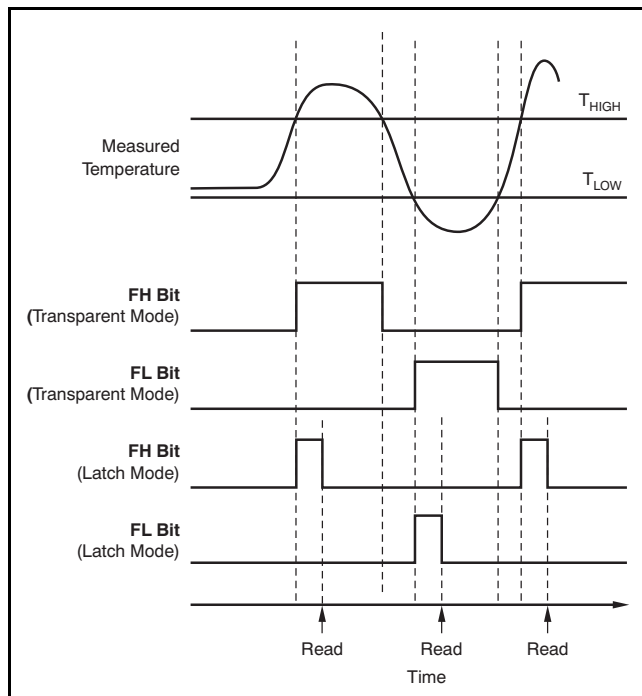

Figure 8. Temperature Flag Functional Diagram
The TMP103 contains a watchdog function that monitors device temperature and compares the result to the values stored in the temperature limit registers (T_{HIGH} and T_{LOW}) in order to determine if the device temperature is within these set limits. If the temperature of the TMP103 becomes greater than the value in the T_{HIGH} register, then the flag-high bit (FH) in the configuration register is set to '1'. If the temperature falls below value in the T_{LOW} register, then the flag-low bit (FL) is set to '1'. If both flag bits remain '0', then the temperature is within the temperature window set by the temperature limit registers, as shown in Figure 8.
The T_{HIGH} and T_{LOW} registers are used to store the temperature limit thresholds for the TMP103 watchdog function. At the end of each temperature measurement, the TMP103 compares the temperature results to each of these limits. If the temperature result is greater than the T_{HIGH} limit, then the FH bit in the configuration register is set to '1'. If the temperature result is less than the T_{LOW} limit, then the FL bit in the configuration register is set to '1'; see Figure 8.